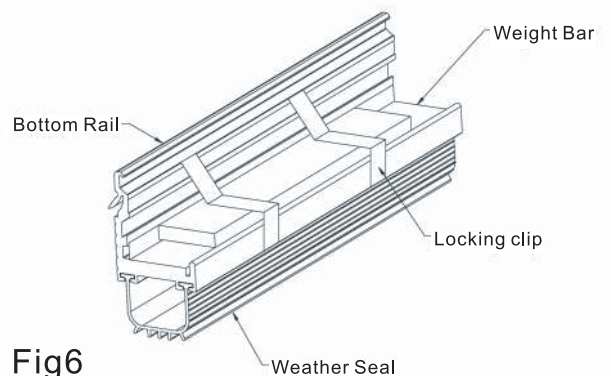

Fig6
- r) Place the weight bar provided on the bottom rail. Secure the weight bar with two spring clips provided 300mm from each end of the weight bar. (Fig. 6)